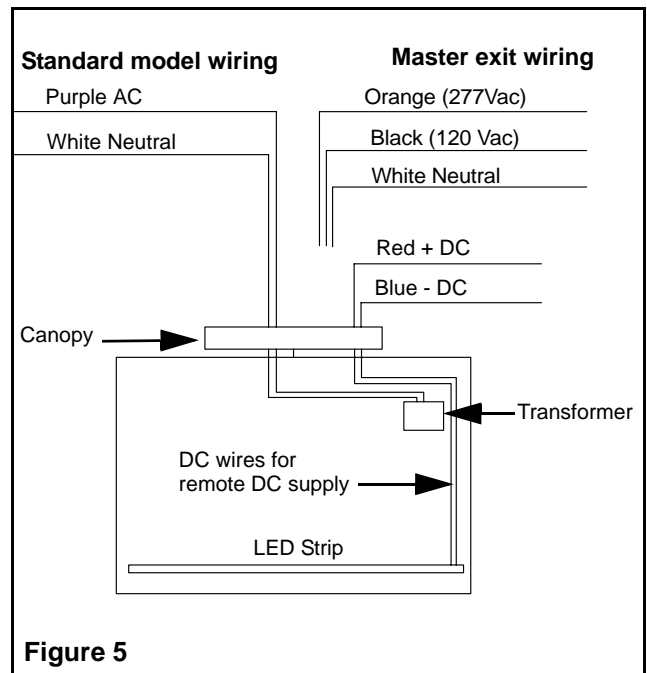

Figure 5
- h. Make the proper connection. In standard unit, the system can accept input voltages from 120 to 347 Vac. Therefore, connect the purple (hot) and white (common) leads to the building utility (see fig. 5). For master exit sign wiring, connect the orange (277 Vac) or the black (120 Vac) and the white (neutral) to the building utility. Feed the excess wire into the junction box.
- d. Make the proper connections. In standard units, the system can accept input voltages from 120 to 347 VAC. Therefore, connect the purple (hot) and white (common) leads to the building utility. For master exit sign wiring, connect the orange (277 Vac) or the black (120 Vac) and the white (neutral) to the building utility. Feed excess wire into the junction box (see fig. 5).
Refer to fig. 5 for AC & DC wiring.